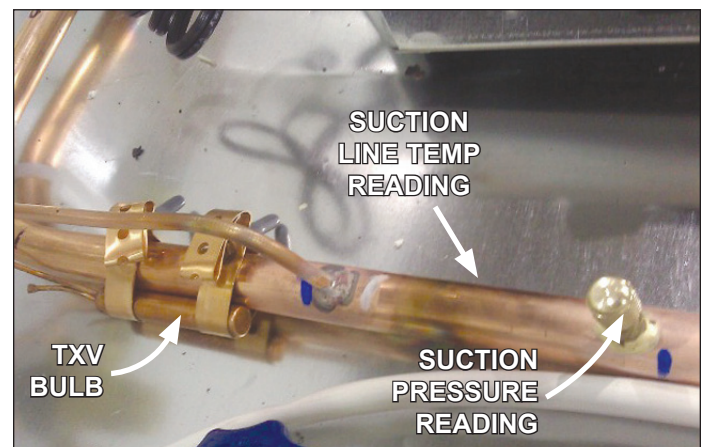

Fig. 17 Obtain pressure and temperature readings
1. Obtain suction pressure from the access port. Obtain suction line temperature from the area near the TXV bulb at the outlet of the evaporator coil (Fig. 17).